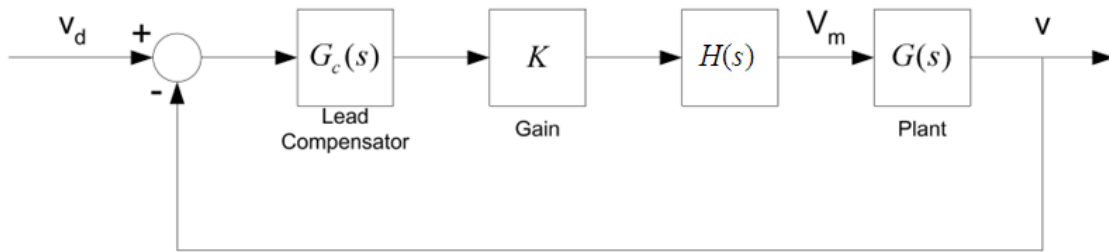

Fig. 5 – Lead-Compensator based Speed Control structure
Suppose we want to control the plant using the unity-feedback structure given in *Fig. 5*. Find the simplest possible  $H(s)$  using such that we satisfy the steady-state error design specification. Hint: Use  $E(s)$  and  $|e_{ss}|$ .
We have found the necessary  $H(s)$  in Fig. 5 such that we have zero steady-state error to a unit step input. One design criterion related with the system transient response is given as the open-loop bandwidth of the system. We would like to first find what the present bandwidth (Gain crossover frequency) is, followed by determining the required gain  $K$  to set the bandwidth to the desired value.
From EE302, the purpose of the *Lead Compensator* block in Fig. 5 is to increase relative stability of the system, by increasing the phase margin of the closed-loop system.
- (a) We would like to know what the present phase margin of the system is without the help from the  $G_c(s)$  block in Fig. 5. In the space provided below, sketch magnitude and phase of the bode plot of the uncompensated open-loop system  $KH(s)G(s)$ . In this step you can use MATLAB to plot the desired diagrams. Do not forget to mark all critical points on your plots.
(h) You have found values of all blocks in Figure 5. Now, calculate open-loop transfer function of the system shown in Figure 5.